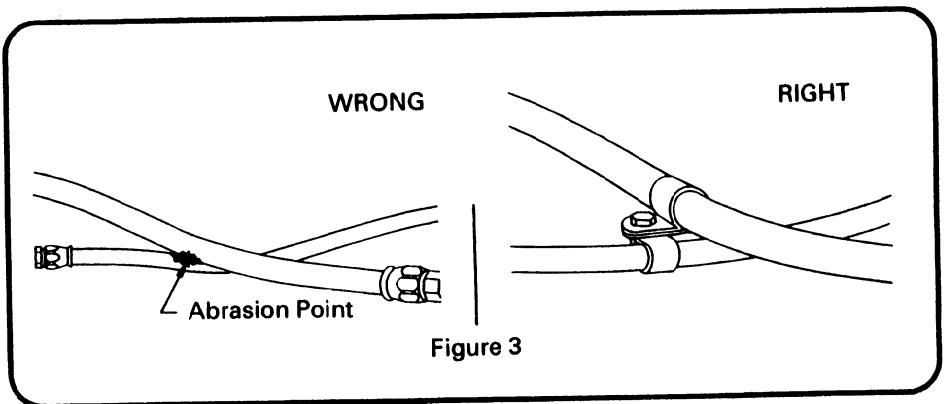

Figure 3
- d. Route and clamp the hose to prevent it from contacting another hose line or other abrasion point. (See Figure 3.)